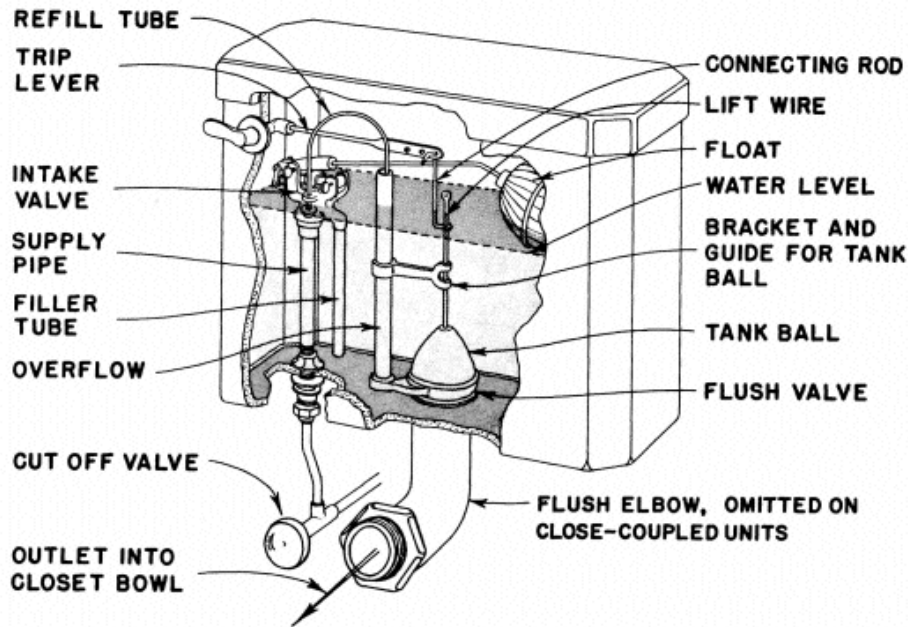

Figure 7.—Water closet (toilet) flush tank.
Figure 7 shows a common type of flushing mechanism. Parts that usually require repair are the flush valve, the intake (float) valve, and the float ball.
Most plumbing codes require a cutoff valve in the supply line to the flush tank, which makes it unnecessary to close down the whole system (fig. 7). If this valve was not installed, you can stop the flow of water by propping up the float with a piece of wood. Be careful not to bend the float rod out of alignment.
- Disconnect the water pipes to the tank (see fig. 7).